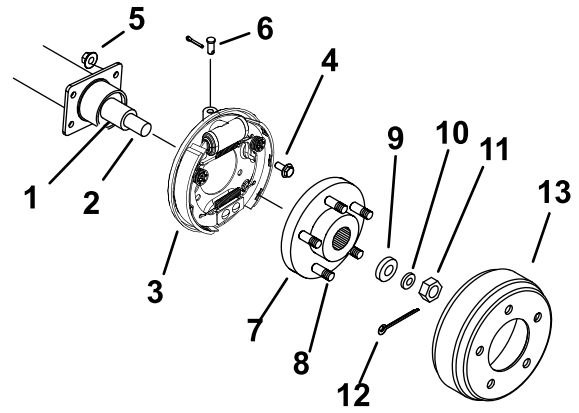

Figure 9
9. Move to the rear of the vehicle. Apply anti-seize lubricant to the location on the transaxle as shown in Figure 9.
10. Install new rear brake assemblies (104-6807, 104-6806). Secure the brake assembly to the axel with the four cap screws and flange lock nuts removed previously (Figure 9). Torque the fasteners to 20 ft-lb (27 N-m).
11. Install existing wheel hub over the transaxle shaft. Apply anti-seize lubricant to the splines. Secure it with a spacer, lock washer and castle nut removed previously (Figure 9). Torque the castle nut to 120 ft-lb, then turn the nut to align the cotter pin hole in the transaxle shaft with notch in the nut.
12. Install the new brake drums over the wheel studs (Figure 9).